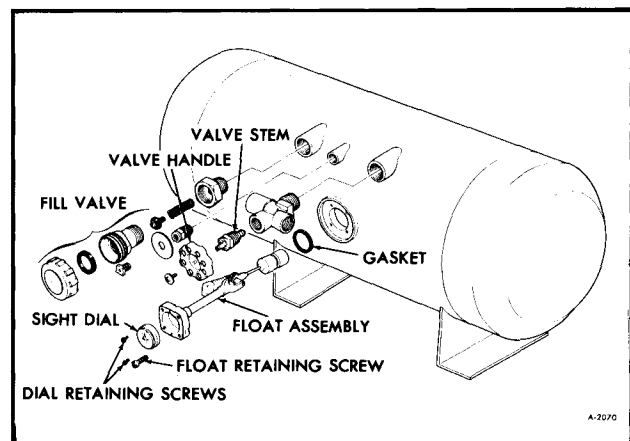

Figure 10—L.P. Gas Tank Components
2. Remove valve handle securing screw. Remove handle (See figure 10).
3. Remove valve stem (See figure 10).
2. Remove two retaining screws (See figure 10).
3. Remove four float retaining screws (See figure 10).
NOTE: Position float as shown in Figure 10 while removing from tank.